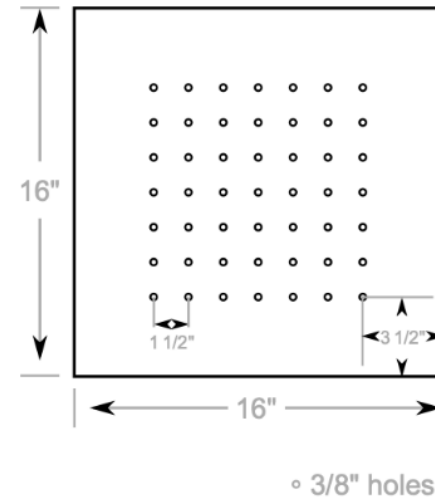

Figure 10. Column Bottom Detail
Step 18. Using the other 37 ½" X 48" piece of plywood, cut a 16" square. This will become your column bottom as shown in Figure 10.
Step 19. A series of ventilation holes are required in this 16" square piece of sheathing. Following the pattern shown in Figure 10, drill the forty-nine (49) 3/8" holes.